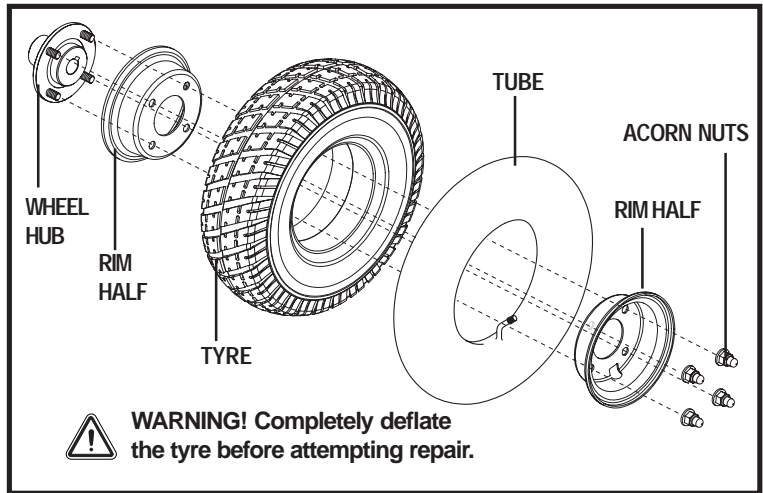

Figure 23. Drive Wheel Disassembly
8. Remove the acorn nuts that fasten the two rim halves together. See figure 23.
12. Reinstall the drive wheel nut and washer onto the axle and tighten. See figure 23.